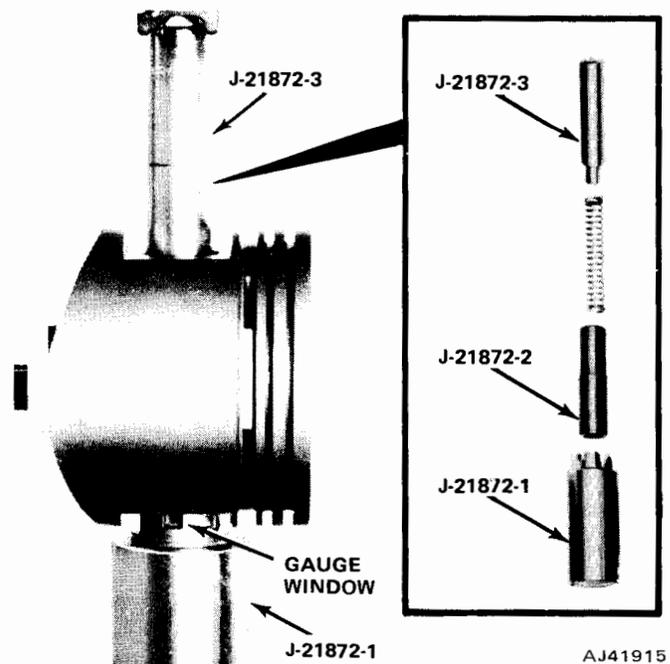

Fig. 1A-45 Piston Pin Removal or Installation
(1) Insert Pin Pilot J-21872-2, through piston and connecting rod pin bores (fig. 1A-45).
(2) Position pin pilot, piston, and connecting rod on Support J-21872-1.
(3) Insert piston pin through upper piston pin bore and into connecting rod pin bore.
(4) Position Piloted Driver J-21872-3 inside piston pin.
(5) Using arbor press, press piston pin through connecting rod and piston until pin pilot indexes with mark on support.